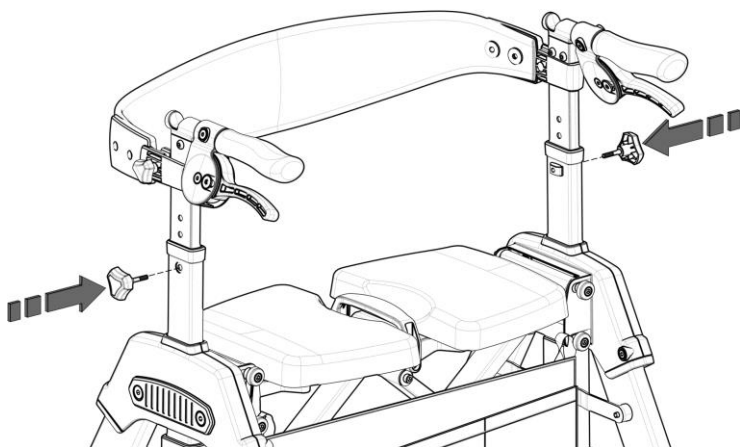

FIGURE 3
3. Handle height adjusts to 31"-38". Unscrew knobs, adjust handles to desired height, align holes and retighten knobs as shown in **FIGURE 3**.